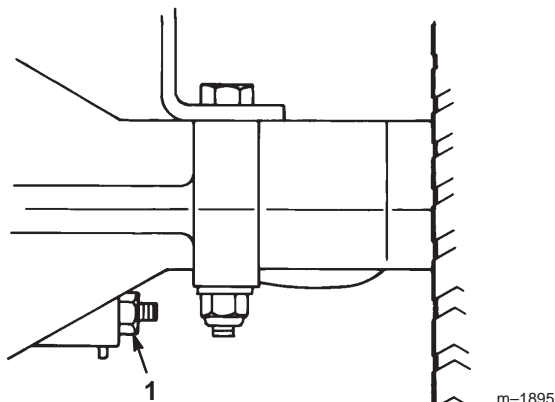

Figure 19
The brake is on the right side of the rear axle, inside the rear tire (Fig. 19). If the brake does not hold securely or stopping power is insufficient, an adjustment is required.
2. To increase braking resistance, tighten the brake adjusting nut (Fig. 19) 1/8 turn clockwise; then check the brake again. Continue this adjusting and checking process until the brake is set properly.